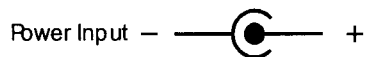

Figure 2: Power Circuit
- Any adapter providing a minimum DC output of 12 volts (max 24 volts) will power this flowmeter through the power jack (See Figure 1) on the side of the case following the polarity convention shown in Figure 2. The electronic circuit is protected against reverse polarity up to a supply voltage of 15 volts.